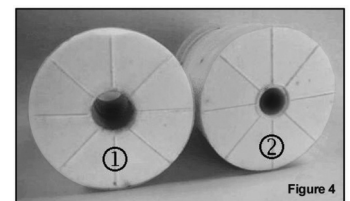

Figure 4
11. Ensure that the ID of the jounce bumper is as smooth as possible and free of loose material. If necessary, an Exacto® knife, or equivalent, can be used to carefully trim the edge and remove any loose material. Figure 4 shows a jounce bumper with the enlarged upper ID (1) as compared to the original ID (2).